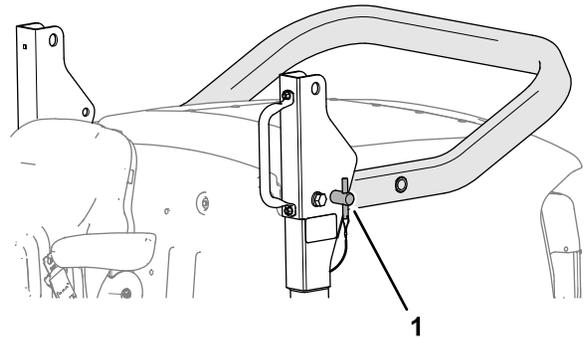

Figure 28
2. Remove the roll-bar pins to the pivot brackets (Figure 28).